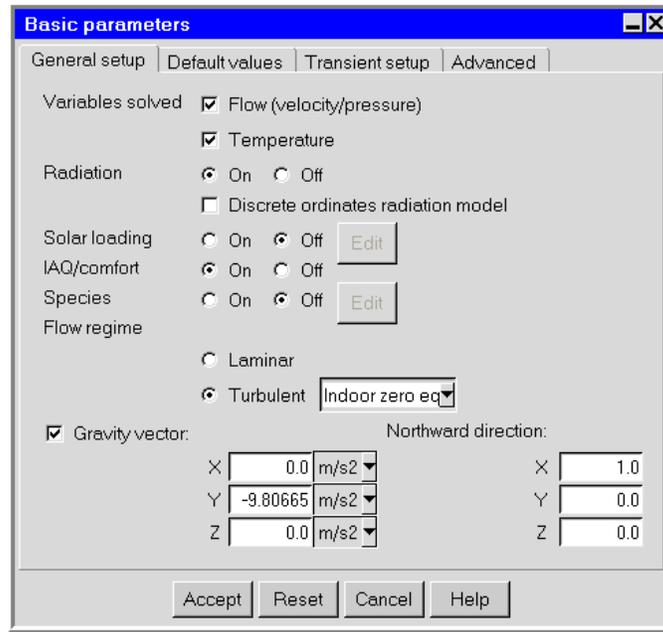

Figure 6.4.1: The Basic parameters Panel (General setup Tab)
You can specify parameters for the current model in Airpak using the **Basic parameters** panel (Figures 6.4.1, 6.4.2, 6.4.3, and 6.4.4). The types of parameters you can use to describe your model include the following:
To open the **Basic parameters** panel (Figures 6.4.1, 6.4.2, 6.4.3, and 6.4.4), double-click on the **Basic parameters** item under the **Problem setup** node in the **Model manager** window.
Airpak allows you to choose the variables you want it to solve in your simulation. Four options are presented in the **Basic parameters** panel (**General setup** tab): **Flow** (velocity/pressure), **Temperature**, **Radiation**, and **Species**. (Figure 6.4.1). These options are discussed below.
- To solve the problem for flow, select **Flow (velocity/pressure)** under **Variables solved** in the **General setup** tab of the **Basic parameters** panel (Figure 6.4.1). You must also specify the **Flow regime** in the **General setup** tab of the **Basic parameters** panel to be **Laminar** or **Turbulent** (see Section 6.4.3 for more details on selecting a flow type).
- To solve the problem for species, select **On** for **Species** in the **General setup** tab of the **Basic parameters** panel (Figure 6.4.1). The procedure for defining a species transport calculation is described in Chapter 21.
You can choose whether to solve the problem for radiation. If you want to solve for radiation, select **On** for **Radiation** in the **General setup** tab of the **Basic parameters** panel (Figure 6.4.1). If you do not want to solve for radiation, select **Off**. The surface-to-surface radiation model is used for modeling radiation by default. If you want to use the discrete ordinates (DO) radiation model instead, select the **Discrete ordinates radiation model** in the **Basic parameters** panel.
1. Select **Laminar** or **Turbulent** under **Flow regime** in the **General setup** tab of the **Basic parameters** panel (Figure 6.4.1) to specify a laminar or turbulent flow.